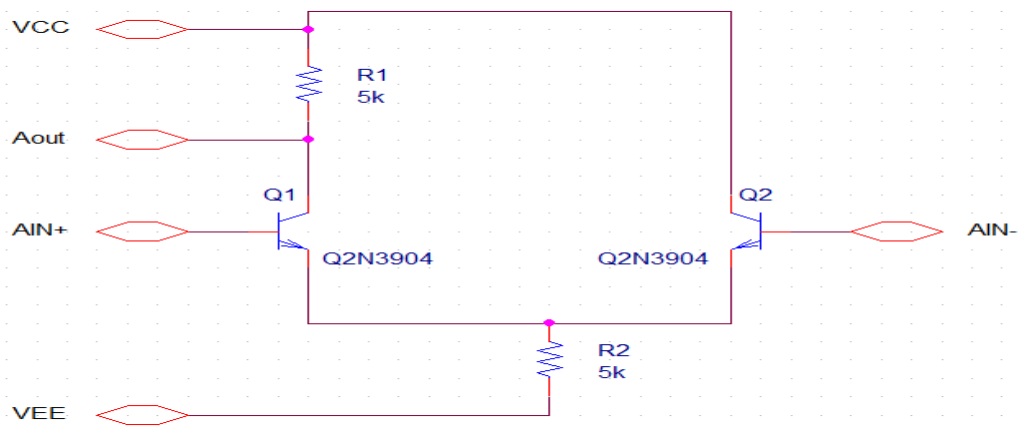

Figure 3: lowfirst schematic
- As mentioned earlier, we are dividing the amplifier into smaller modules, in our case, two modules as shown in Fig.3 and 4. Draw the circuits shown Fig.3 and 4 on separate schematics and save them as “lowfirst.sch” and “lowsecond.sch”, respectively.